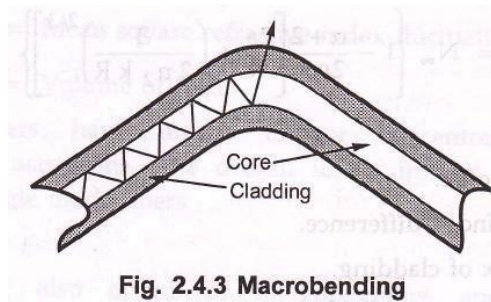

Fig. 2.4.3 Macrobending
- The macrobending losses are caused by large scale bending of fiber. The losses are eliminated when the bends are straightened. The losses can be minimized by not exceeding the long-term bend radii. Fig. 2.4.3 illustrates macrobending.